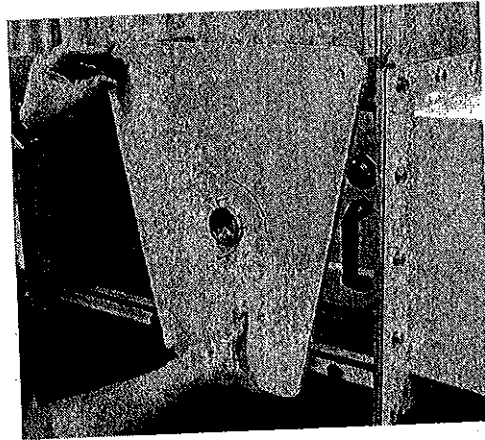

Figure 5 Use the Thumbscrews and Washers to Fix the Back Plate into Place.
3. Use the thumbscrews and washers (supplied) to fix the triangular back plate to your side of the working section (see Figure 5).